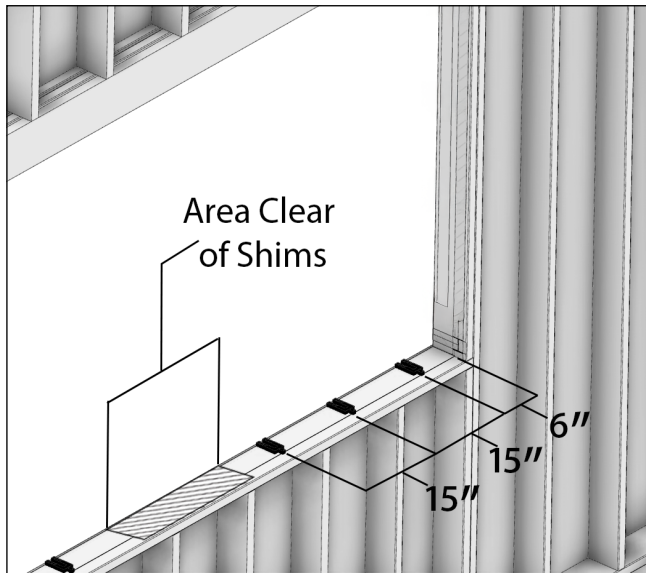

Figure 66 Shim spacing
7. Shim unit: 1/16" shims are required to be applied to the sill prior to placing assembly in the RO. Do not shim under gusset plates. Shim spacing is 6" max from corner and 15" max on center. See Figure 66.